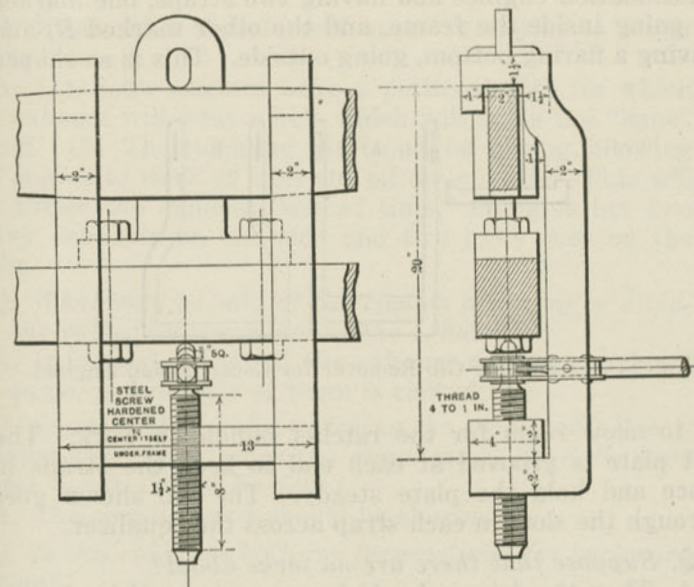

Fig. 375. Clamp for Removing Gib in Spring Equalizer.
A. As shown in Figs. 375 and 376, the latter being for consolidation engines and having two straps, one marked A, going inside the frame, and the other marked B, and having a flaring bottom, going outside. This is so shaped